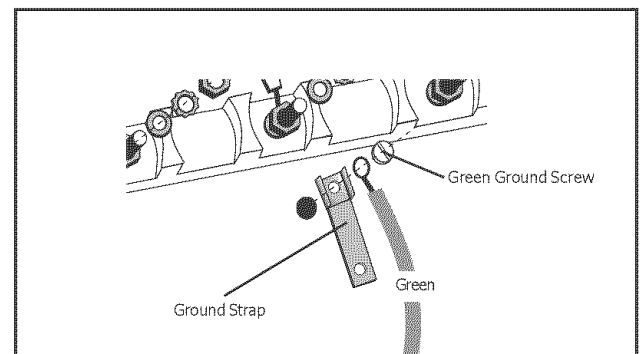

Figure 9
5. Remove ground strap from center post, rotate (so that wide end is at top) and straighten. Then attach wide end to range through hole below terminal block. Attach green wire on top of ground strap. Tighten Screw (See Figure 9).